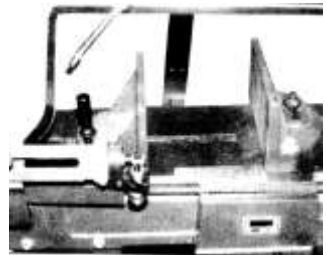

Fig. 9
1. Place a machinist's square next to the vise as seen in Fig. 9.